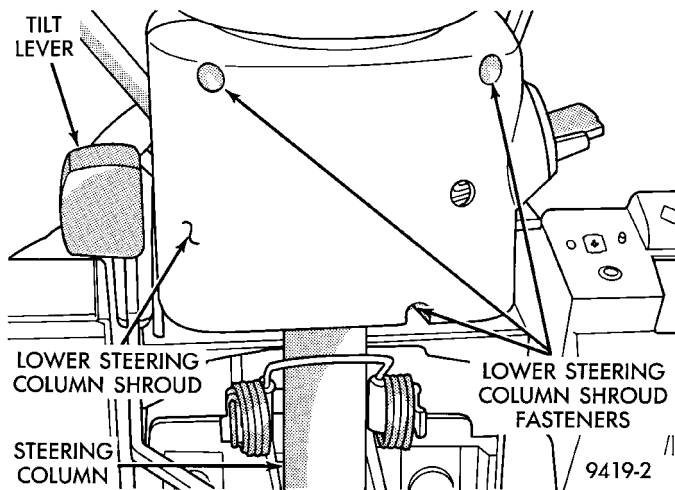
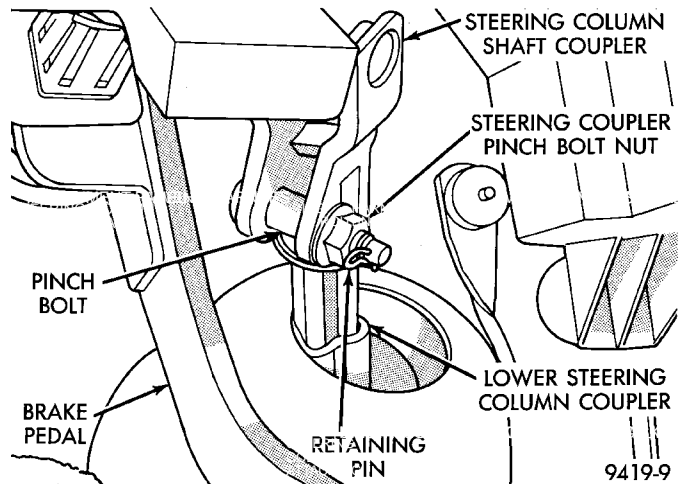
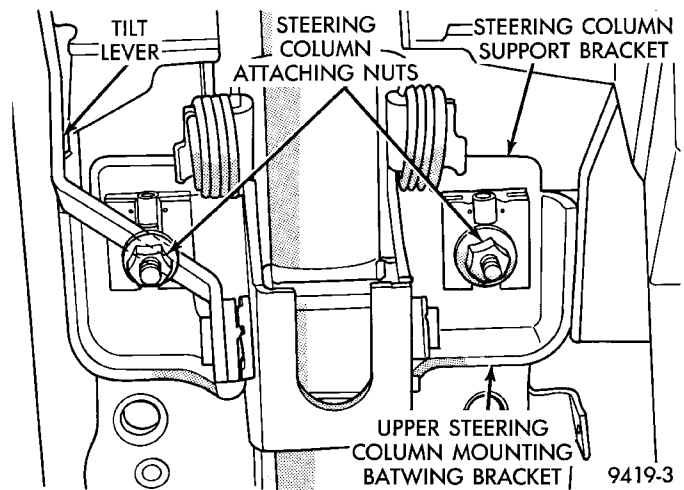
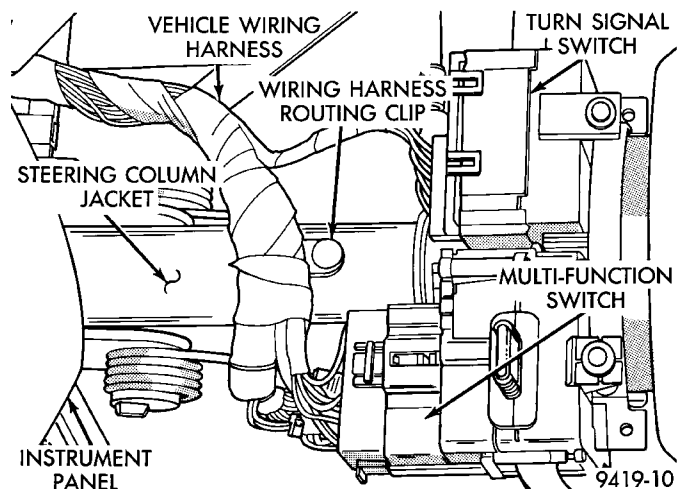

Fig. 15 Upper And Lower Steering Column Shrouds
Fig. 16 Upper To Lower Steering Column Coupler Disassembly
Fig. 17 Steering Column Upper Support Bracket Attaching Nuts
Fig. 18 Steering Column Wiring Connections
(15) Remove the 3 screws attaching the upper and lower shroud to the steering column (Fig. 15). First remove lower shroud from steering column, then release tilt lever and tilt steering column to its lowest point. Then remove upper shroud from steering column.
(16) Remove retaining pin in the upper to lower steering column coupler pinch bolt (Fig. 16).
(17) Loosen the upper to lower steering coupler pinch bolt retaining nut and remove pinch bolt (Fig. 16) from steering coupler. **(Pinch bolt nut is caged to coupler and is not removable.)** Then separate upper steering coupler from lower steering coupler shaft.
(18) Remove the 4 nuts attaching the lower mounting bracket of the steering column to the body mounting bracket for the steering column.
(19) Remove the 2 steering column assembly upper bat wing bracket to support bracket nuts (Fig. 17).
(20) Lower steering column assembly in the steering column access opening of the lower instrument panel.
(21) Remove routing clip (Fig. 18) holding wiring harness to jacket of steering column. Then remove wiring harness connectors from the multi-function switch and the windshield wiper switch (Fig. 18).
(3) Install vehicle wiring harness connectors into multi-function switch and turn signal switch (Fig. 18) on steering column assembly. Install routing clip (Fig. 18) holding wiring harness to jacket of steering column.
(4) Install the studs in the steering column support bracket, into the slots in the plastic capsules of the upper mounting bracket of the steering column (Fig. 17). Partially install the 2 upper steering column assembly mounting bracket to support bracket attaching nuts (Fig. 17). **Do not tighten the 2 mounting nuts at this time.**
(5) Align the bolt holes in the steering column lower mounting bracket with the threaded holes in the boby mounting bracket for the steering column. Install and loosely tighten the steering column lower mounting bracket bolts.
(6) Install the upper and lower steering column shrouds onto the lock housing of the steering column assembly. Install and securely tighten the 3 upper to lower steering column shroud to lock housing attaching screws (Fig. 15).
(7) Be sure both breakaway capsules are still fully seated in the slots of the upper steering column mounting bracket. Equally tighten both steering column mounting nuts, until upper steering column mounting bracket is seated against support bracket. Then tighten the 2 steering column upper mounting bracket nuts to a torque of 17 N·m (150 in. lbs.).
(8) Tighten the steering column lower mounting bracket nuts (2) to a torque of 17 N·m (150 in. lbs.).
(9) Assemble the steering column flex coupler to the intermediate steering coupler (Fig. 16). Install the steering coupler pinch bolt. Torque the pinch bolt nut to 28 N·m (250 in. lbs.). **Be sure to install upper to lower steering coupler pinch bolt retaining pin (Fig. 16).**